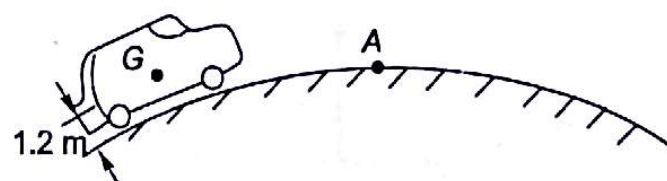

Fig. 11.12
- 11.8 A truck is moving on a curved path as shown in Fig. 11.12. G of the truck is located at a distance of 1.2 m from the level of the road. When the truck reaches the top of the hump at A, its G experiences an acceleration of 5.4 m/s^2 . What is the radius of curvature of the road at A, if the average speed of the truck is 80 km/hour ?